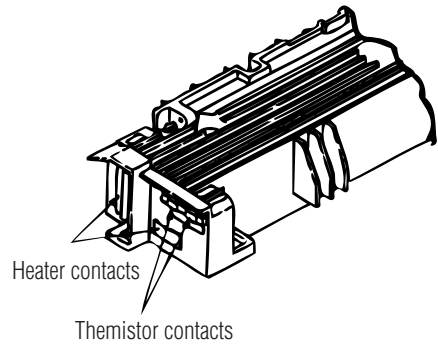

Figure 6-2
④ Fusing unit error (ERROR 71) (ERROR 72) (ERROR 73)
- Yes Is the thermistor open or shorted? Measure the resistance between thermistor contacts (about 220kΩ at room temperature) (see Fig. 6-2 or see 7.3).
- No Is the heater or the thermostat open? Measure the resistance between the heater contacts (normal resistance: about 0Ω) (see Fig. 6-2 or see 7.3).
- No Is the AC voltage being supplied to the contacts for the heater of the contact assembly? (Refer Fig. 6-2)